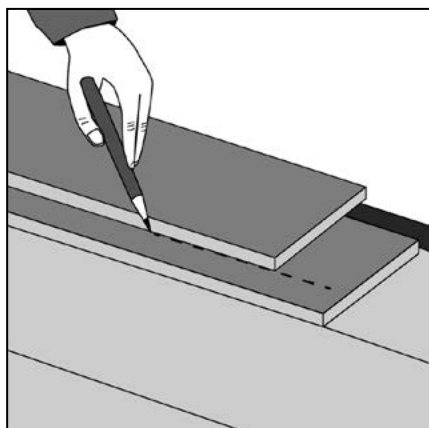

Figure 6 Last row, cutting the plank/tiles
- ▶ To cut the planks/tiles to fit the last row, position them one at a time directly over the previous row in the direction you'll be laying them. Lay these planks/tiles on top of the installed row (fig 6).
- ▶ Use the edge of this board to mark the cutting line with a pencil on the board beneath. Remember to allow for the expansion gap (Fig 6).